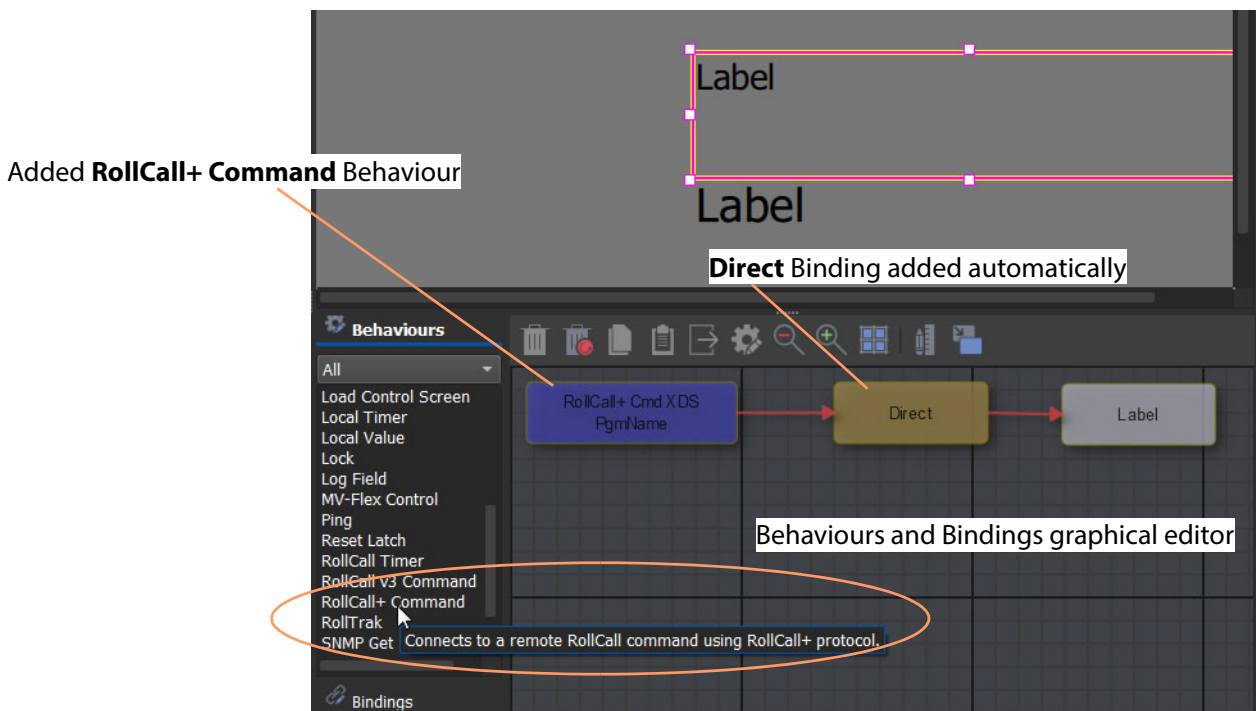

Fig. 7-2: Add a RollCall+ Command Behaviour
- 5 Add a **RollCall+ Command** Behaviour to the editor. See Figure 7-2.